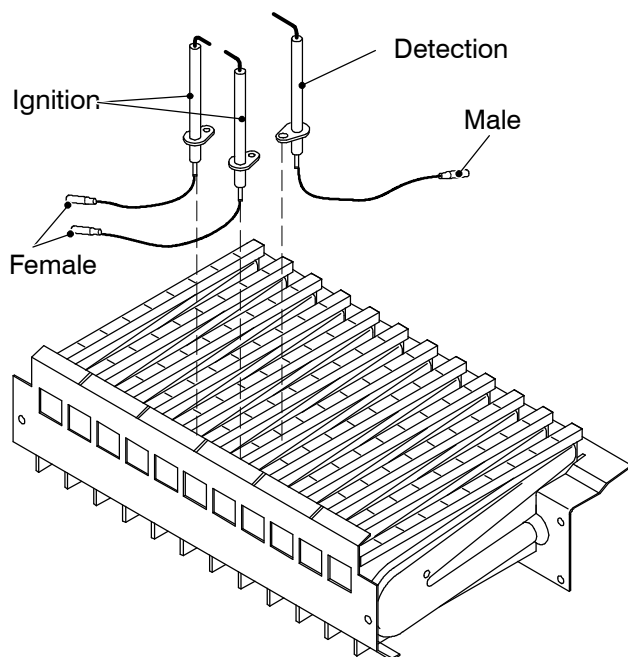

Fig. 74
- 6 Assemble the electrodes carrying out the removal operation in reverse order. Refer to Fig. 74 in order to recognise the electrodes and to correctly connect the wiring.